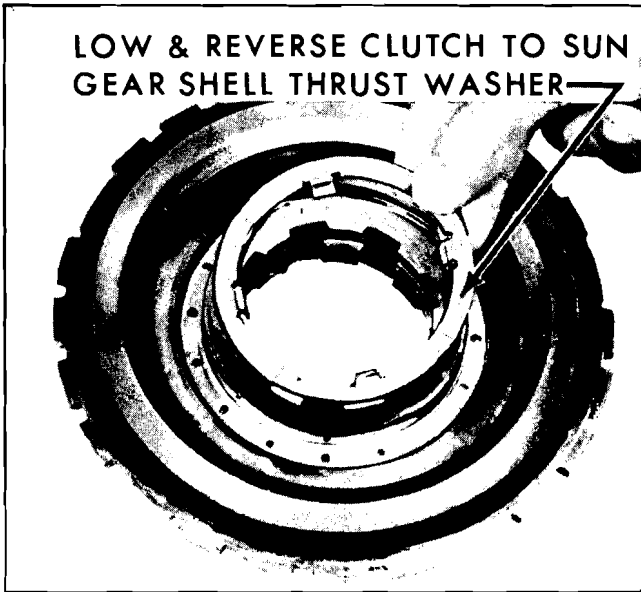

Fig. 7G-113 Installing Low and Reverse-To-Sun Gear Thrust Washer
21. Install input ring gear (Fig. 7G-27).